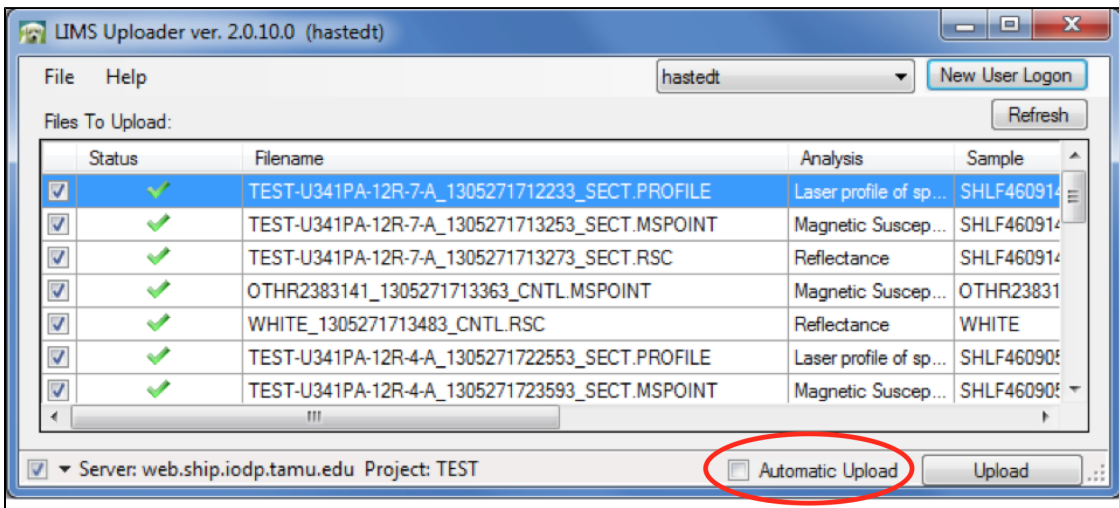

Figure 8. MUT Uploader
2.	Once the application is activated, it displays a table-like list of files in the C:\DATA\IN directory. Files are ready to be uploaded if they have a green check mark next to them as shown in Figure 8, below. Log into MUT using database credentials.